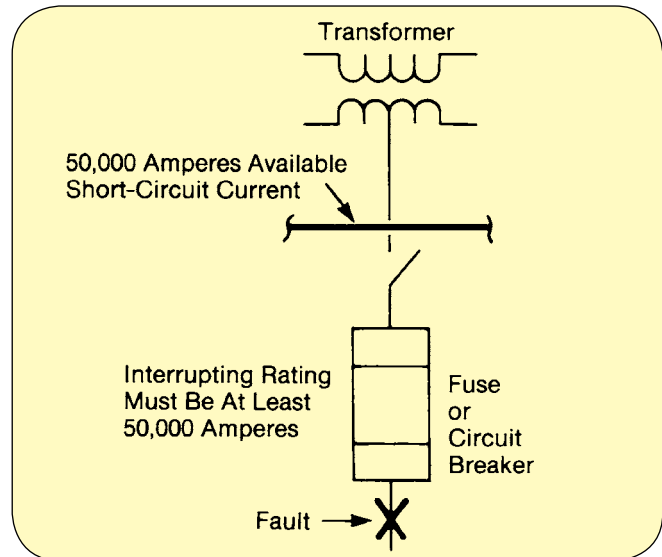

Figure 2
N.E.C. 110-9 requires that the interrupting rating of fuses and breakers not be less than the maximum available short circuit current at their point-of-application as indicated by Figure 2. Circuits where fuses and breakers are installed may be capable of thousands of amperes of short circuit current flow during a short circuit condition. When fuses or breakers are installed where the value of short circuit current flow may exceed the interrupting rating of the devices, a very serious safety hazard may exist. A flow of short circuit current in excess of the device interrupting rating may cause only a mild device rupture during device opening or a violent explosion depending on the value of excess short circuit current flow.